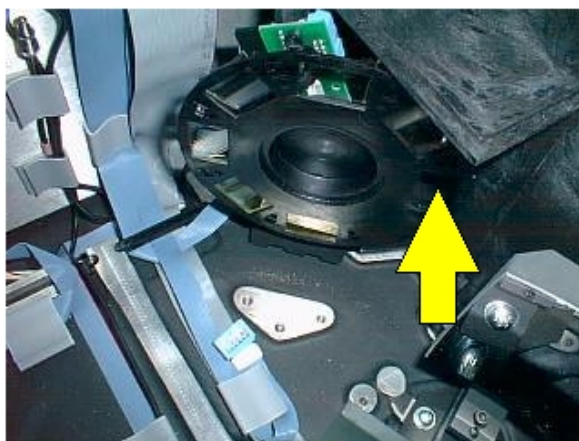

Figure 70 Position of the emission entrance slit
20. Observe the emission entrance slit through the open aperture in the emission filter wheel, as shown in Figure 70.